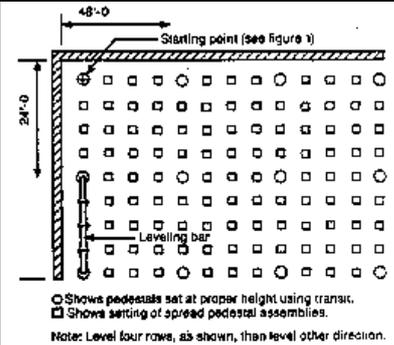

Figure 2
**STEP 4.** Chalk the two control lines and spread pedestal assemblies in an area approximately 48 feet x 24 feet, making sure to start at the approved starting point. (See figure 2)